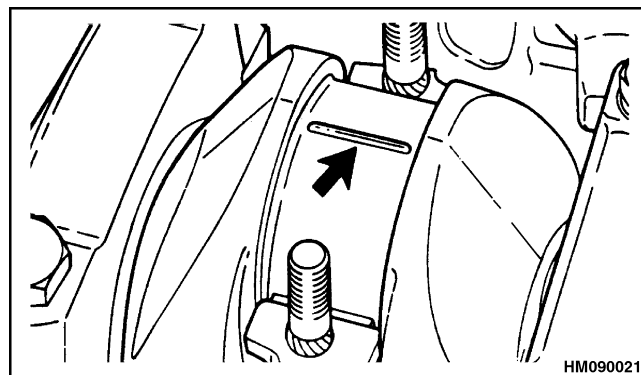

Figure 59. Bearing Journal Plastigage® Placement
4. Clean the oil from the bearing half and journal to be checked. Put a piece of Plastigage across the full width of the bearing journal as shown in Figure 59. Do not rotate the crankshaft when the Plastigage is between the main bearing and its journal.
6. Remove the main bearing cap. The Plastigage will be compressed and wider and will adhere to either the bearing or its journal. Use the scale on the envelope for the Plastigage to measure the width of the plastic at its widest point. The scale will indicate the clearance in millimeters or thousandths of an inch. See Figure 59.